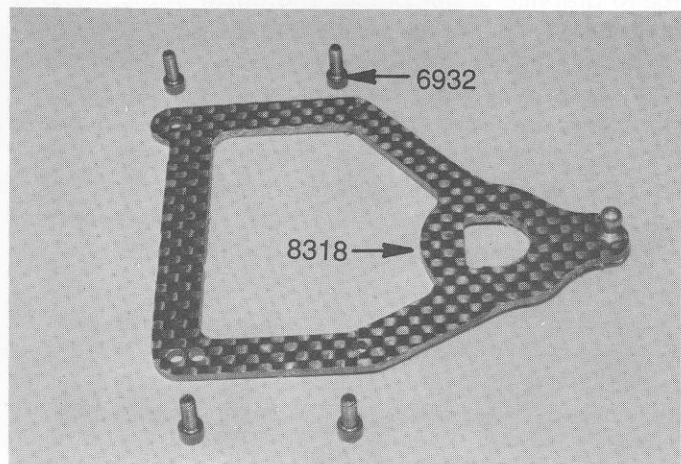
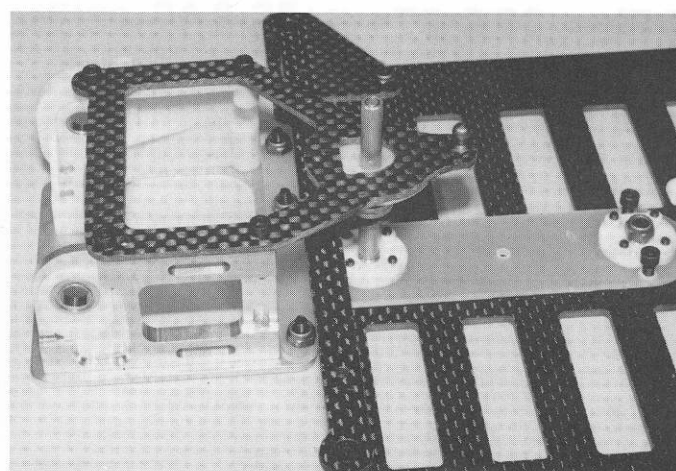

Fig. 42
Fig. 43
□ **Figs. 42 & 43** In bag 5 you will find four #6932 4-40 x 5/16" SHCScrews. Use these screws to mount the #8318 graphite upper rear brace to the rear pod assembly. Coat both sides of the brace, where the dampner washers will ride, with some of the #6636 Associated diff lube. Remember, when installed, the upper brace will fit over the #8329 upper dampner post. Fig. 43 shows the upper brace and mounting screws installed.